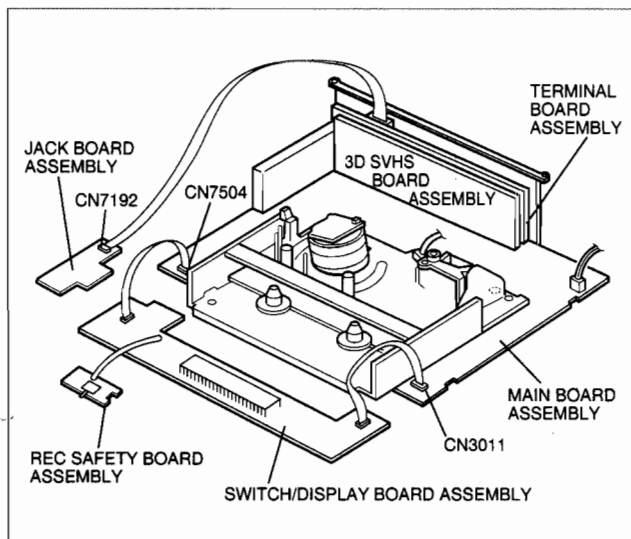

Fig. 1-4-3
- (8) Place the Switch/Display board assembly, REC safety board assembly and Jack board assembly on the front side of the Mechanism and Main board assemblies which was removed at the step (6), then connect the flat wires into CN3011 and CN7504 of the Main board assembly and CN7192 of the Jack board assembly. (Refer to Fig. 1-4-3.)
1.4.3 Cassette loading and ejection methods in the "SERVICE POSITION" (See Fig. 1-4-3).
- (1) Insert a cassette halfway in the Cassette holder assembly.
- (2) Set the switch on the REC safety board assembly to ON (by pressing the switch).
- (3) As soon as the cassette starts to be loaded, set the switch on the REC safety board assembly to OFF (by releasing the switch).
- (4) Now the desired operation (recording, playback, fast forward, rewind, etc.) is possible in this status (the status shown in Fig.1-4-3).
NOTES: • When performing diagnostics of the tape playback or the recording condition in the "SERVICE POSITION", enter the desired mode before turning the set upside down, and do not change the mode when performing diagnostics while the set is placed upside down. If you want to switch the mode, turn the set to the normal position (the status shown in Fig.1-4-3).